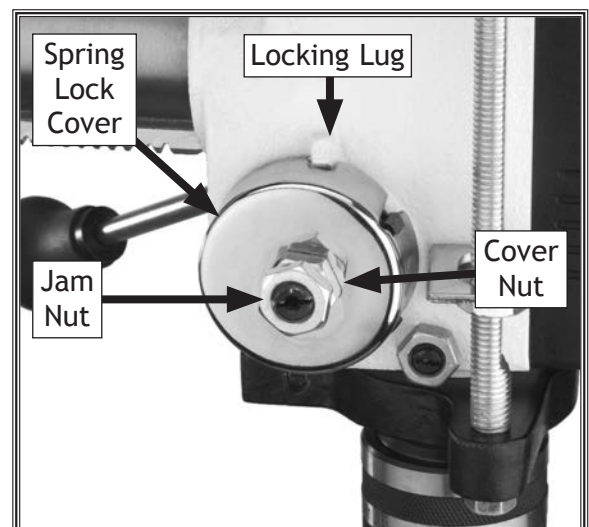

Figure 42. Spindle return spring components.
2. Wipe off any oil on the spring-lock cover so it will not slip when you hold the cover from spinning (see Figure 42).